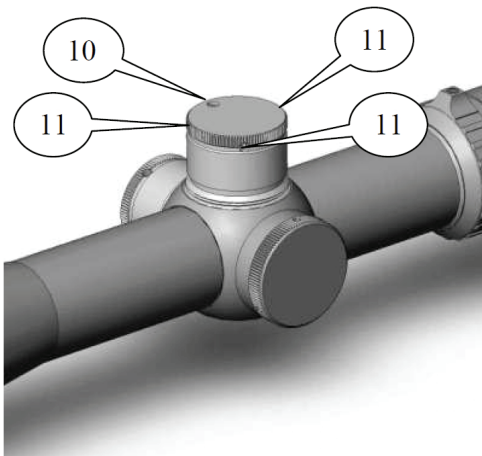

Figure 4
- 11) The zeroed position of the knobs must be fixed (this procedure is called “to set a zero”). In order to do so, loosen the three setscrews (11, Fig. 4) with the hexagon key on each knob. Turn the knob without clicks until the zero marking coincides with the marking on the riflescope body. Tighten the setscrews with the same key;
- 12) The setscrew (10, Fig.4) stops rotation of the knob on the “-2” or “-4” clicks position counting from “0” position of the knob. If you adjustment mechanism is not mechanically locked at the “minus” position, rotate the setscrew (10) clockwise by 4-5 full cycles. If the screw rotates too easily, lock it with the locking substance or paint.